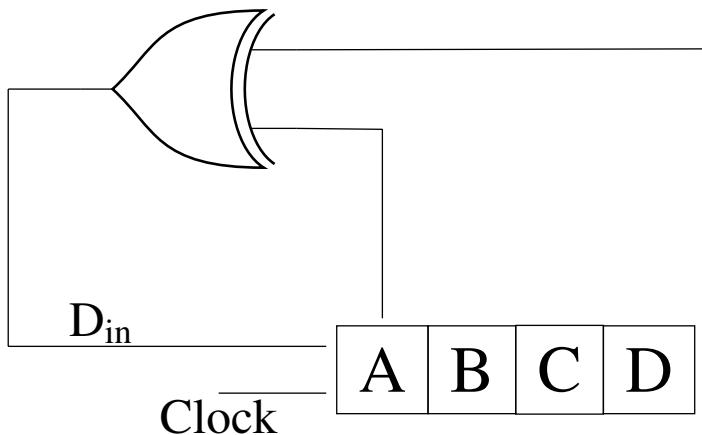

Fig. 5.17
17. A 4-bit shift register circuit configured for right-shift operation, i.e. $D_{in} \rightarrow A, A \rightarrow B, B \rightarrow C, C \rightarrow D$, is shown in Fig. 5.17. If the present state of the shift register is $ABCD = 1101$, the number of clock cycles required to reach the state $ABCD = 1111$ is _____ (GATE-EC 2017)